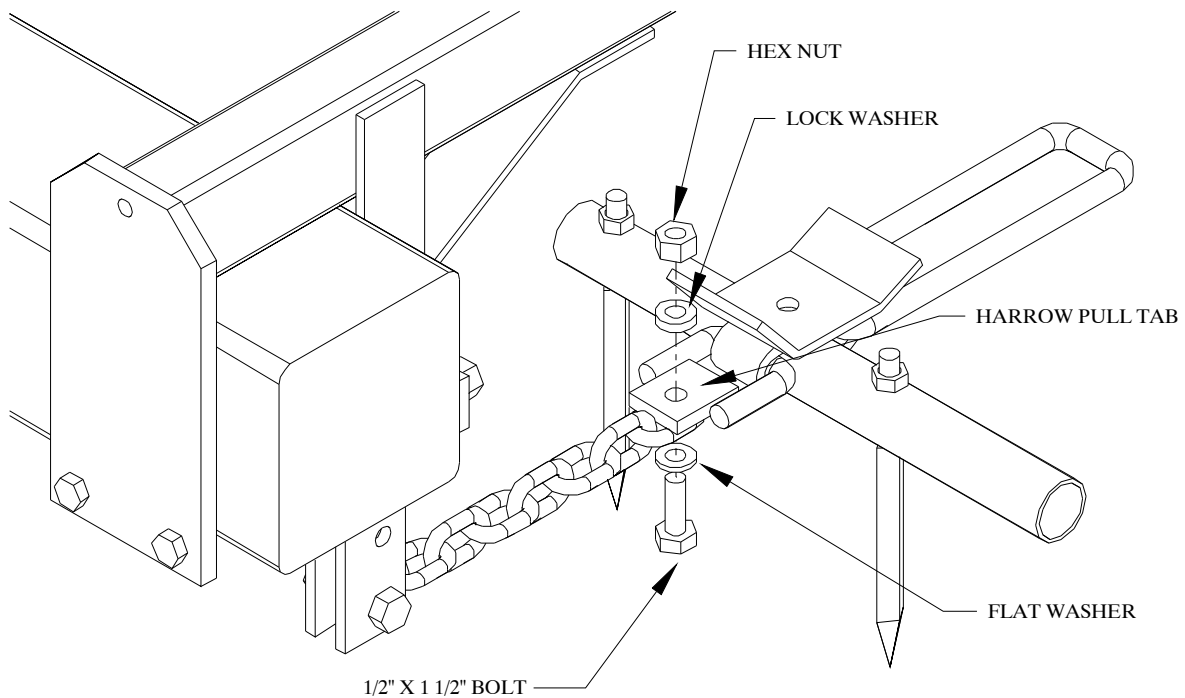

Figure 16
1. Bolt the pull chains to the front tabs on the harrow sections. Refer to Figure 16. Use $\frac{1}{2}$ " x $1\frac{1}{2}$ " bolts, flat washers, lock washers, and hex nuts. The chains should be bolted to the bottom of the pull tabs. Make sure that the chains are not twisted.
1. Bolt the pull chains to the front tabs on the front harrow sections. Refer to Figure 16. Use $\frac{1}{2}$ " x $1\frac{1}{2}$ " bolts, flat washers, lock washers, and hex nuts. The chains should be bolted to the bottom of the pull tabs.
1. Bolt the pull chains to the front tabs on the harrow sections. Refer to Figures 16 and 19. Use 1/2" x 1 1/2" bolts, flat washers, lock washers, and hex nuts. The chains should be bolted to the bottom of the pull tabs.